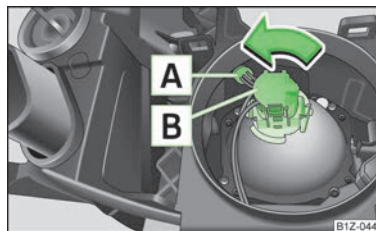

Fig. 162
- To replace the bulb for the **low beam**, turn the connector with the bulb **B** » Fig. 162 **counter-clockwise** up to the stop, and remove.